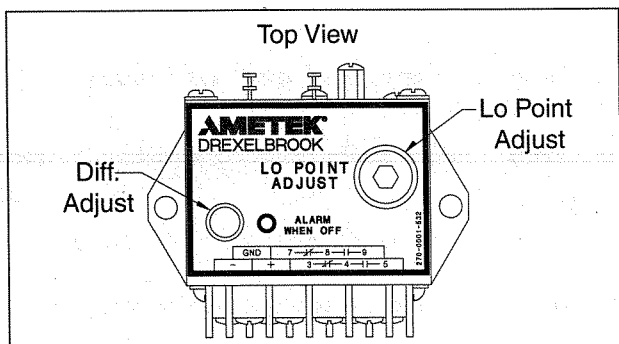

FIGURE 5-3
The differential range corresponds to the differential in level on the sensing element, and depends on the capacitance of the sensing element and the properties of the material being measured. See Figure 5-3 for location of the adjustments. For calibration of adjustable differential units, see Section 5.3.6
- B. Using the insulated tool supplied, turn the *Lo Point adjustment* to the full counterclockwise (CCW) position. Using a small screwdriver turn the *Diff adjustment* to the full counterclockwise (CCW) position also. See Figure 5-3.
- D. Slowly turn the *Lo Point adjustment* clockwise (CW) until the instrument just operates (LED comes on). Be sure to use the insulated tool provided.
- E. Turn the *Diff adjustment* to the full clockwise (CW) position (max differential).